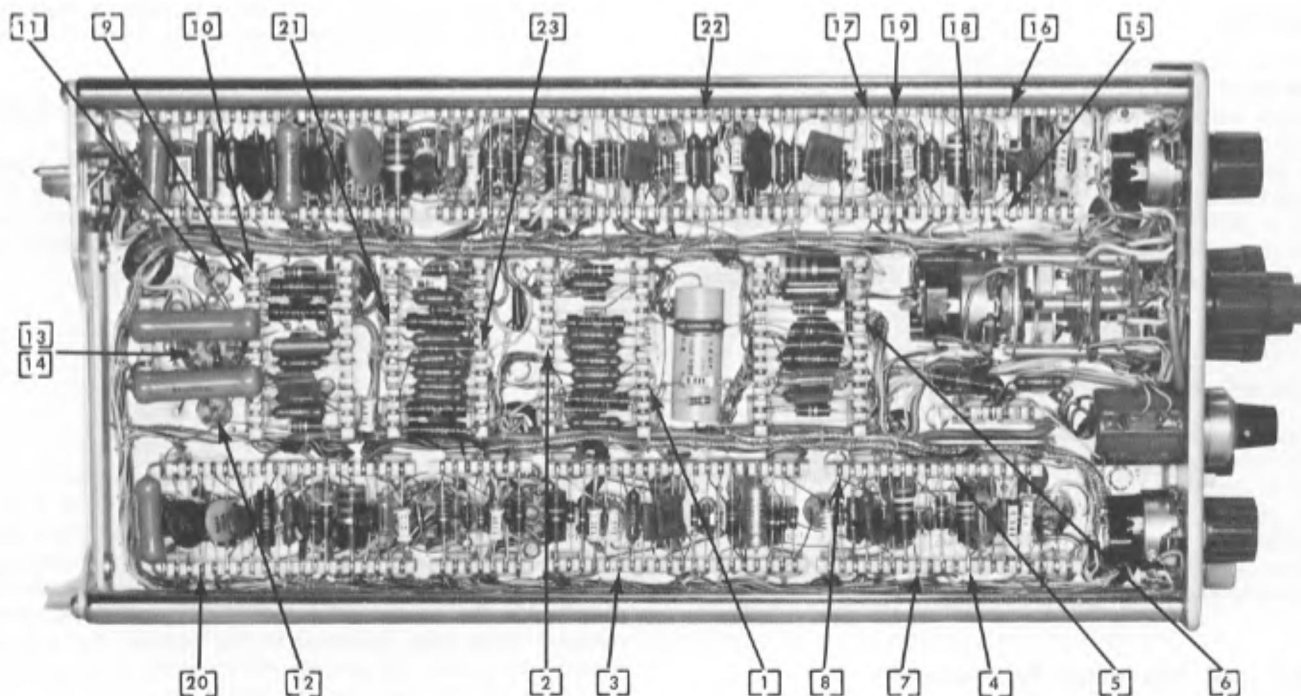

Fig. 5-2. Left side of Type 3B3 illustrating test points designated in Table 5-2.
1. No sweep	1. If B164 is lighted, check V161. 2. CRT may be blanked. Check V194, Q183, and Q194. Miller circuit check. Set TIME/DIV. and DELAY TIME RANGE switches to 2 mSEC. Remove Q114; voltage at test point 1 should be -3 volts. Momentarily remove V152; voltage at test point 1, Fig. 5-2, should rise to +10 volts. If it does not, check V161 and D171. Return Q114 and V152 to their sockets. 4. Sweep gating check. Remove Q114, connect voltmeter across R146 (test points 2 and 3). Push COUPLING switch to AUTO. voltmeter should read between 2.9 and 3 volts. Turn LEVEL control to mid-range (1 volt external trigger signal required); voltage should drop to 2.3 volts. 5. Check of D105. Set trigger COUPLING switch to DC. Turn LEVEL control fully CW. Connect test scope probe to test point 3. Intermittently short across R143; switching of tunnel diode D105 should be seen on test scope.